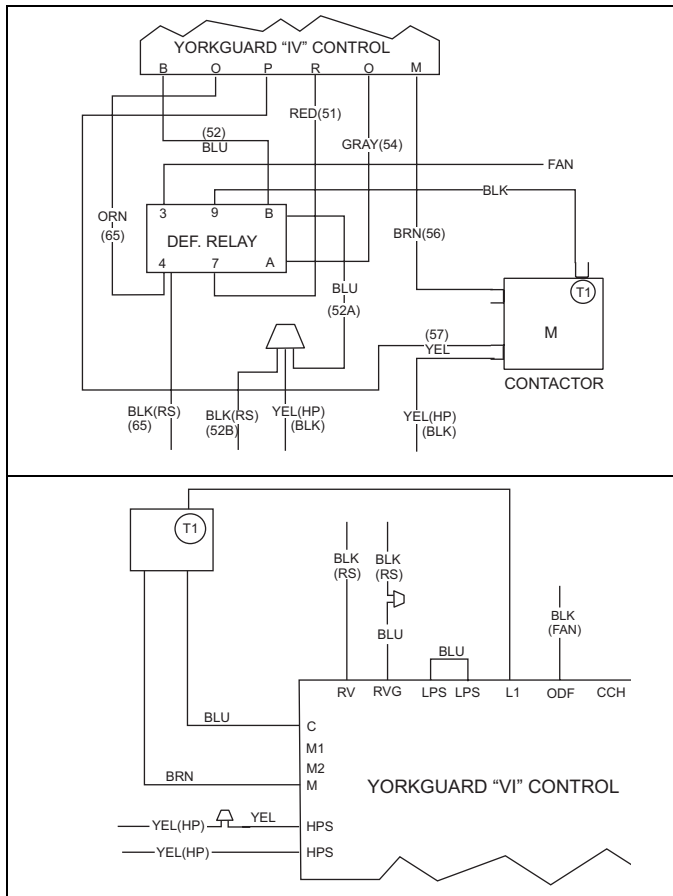

FIGURE 2: Wiring Connections for E*FH and E*EB
7. Re-wire per Figure 2 for E*FH and E*EB.